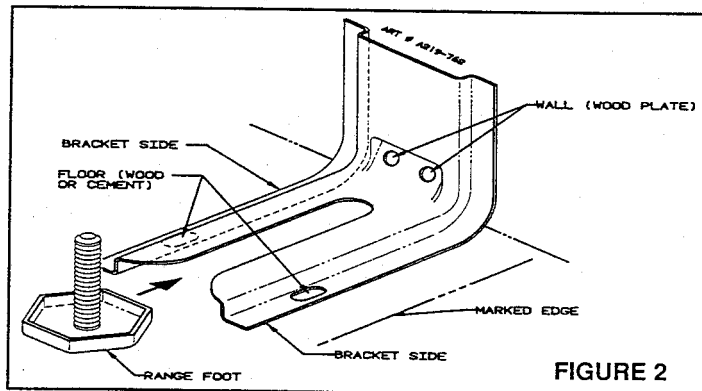
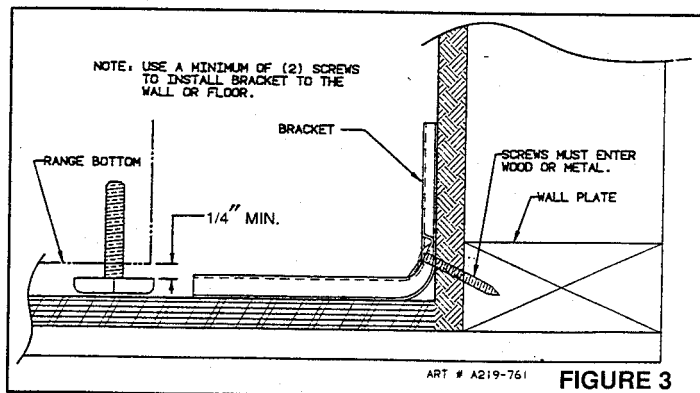

FIGURE 2
FIGURE 3
- B. Place the BRACKET SIDE, (see figure 2) 15/16" from the marked "EDGE" toward center of opening and against the back wall.
- C. Use the bracket as a template and mark the required holes, as shown in figure 2, for the type of construction you will be using.
1. Floor: Locate the center of the two holes identified in figure 2 as "FLOOR-WOOD". Drill a 1/8" pilot hole in the center of each hole (a nail or awl may be used if a drill is not available). Secure the ANTI-TIP bracket to the floor with the two screws provided. Proceed to STEP 3.
2. Wall: Locate the center of the two holes identified in figure 2 as "WALL-PLATE". Drill an angled 1/8" pilot hole in the center of each hole as shown in figure 3. (A nail or awl may be used if a drill is not available). Secure the ANTI-TIP bracket to the wall with the two screws provided as shown in figure 3. Proceed to STEP 3.
1. Suitable screws for concrete construction can be obtained at the hardware store. Drill the required size hole for the hardware obtained into the concrete at the center of the holes identified in figure 2 as "FLOOR-CEMENT". Secure the ANTI-TIP bracket to the floor. Proceed to STEP 3.
- A. Place the range in its designated location and slide it back into position. Note: A minimum clearance of 1/4" is required between the range and the leveling foot that will engage the ANTI-TIP bracket, see figure 3.